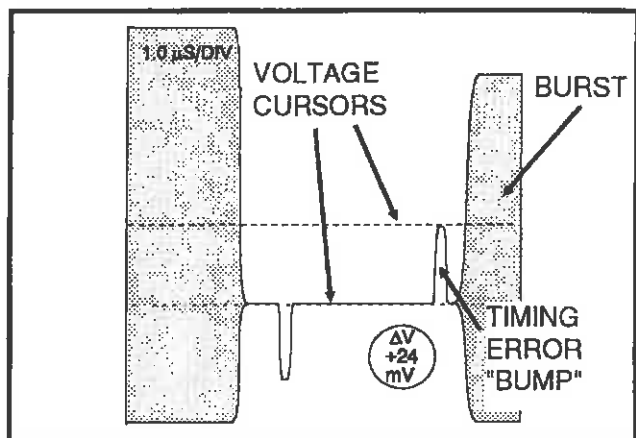
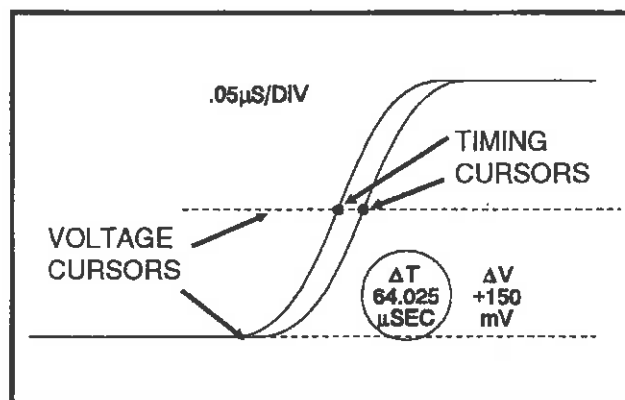

Fig. 5-9.
Fig. 5-10. Placement of the timing and voltage cursors.
- c. CHECK - the display for any "bumps" or "dips" immediately before the burst. (See Fig. 5-9.) The maximum value allowed is 24 mV.
- d. Set the waveform monitor to overlay CH A (TEST SIGNAL) and CH B1 (Y). Set the horizontal magnifier at maximum.
- h. CHECK — that the time cursors are $64.000 \pm 0.025 \mu\text{s}$ apart as shown in Fig. 5-10.